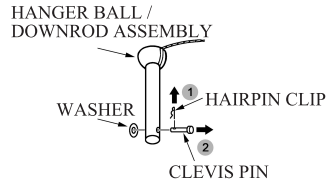

FIG.2
1. Remove the hairpin clip & washer from the clevis pin and remove clevis pin from down rod. (see Fig.2)